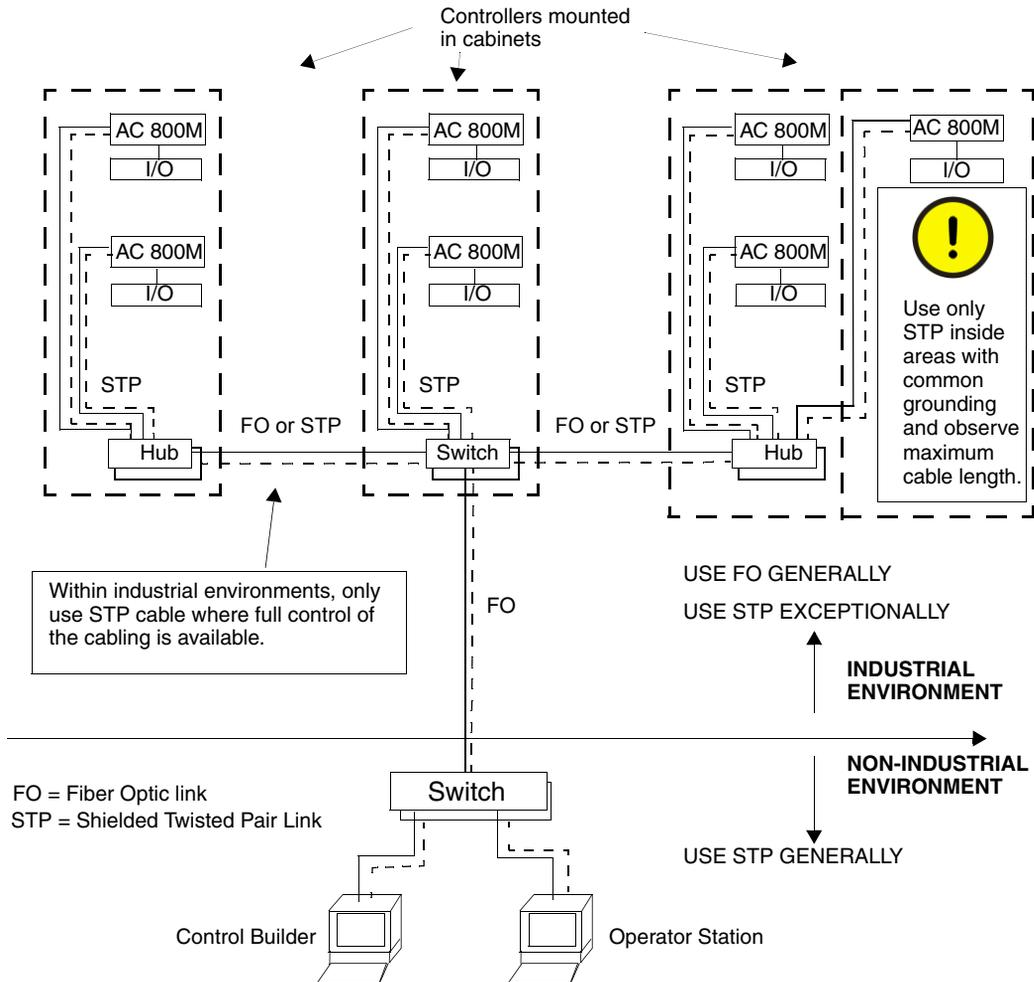

Figure 53. Example of AC 800M Controllers Connected to a Control Network
The Control Builder is installed in a PC that is normally connected to the AC 800M Controller via the Control Network and the CN1 or CN2 ports on the controller (see Figure 53 on page 153).
The AC 800M controller is always connected to the Control Network via an STP (Shielded Twisted Pair) cable. Should the local environment be of an industrial nature, the AC 800M / Control Network connection must be converted over to a Fiber Optic (FO) cable. This is achieved by installing an Ethernet Switch having both optical and electrical ports. See Figure 53 on page 153.